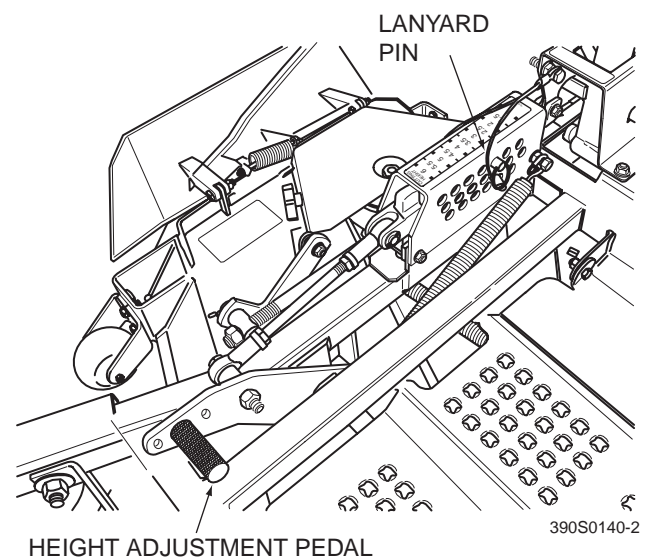
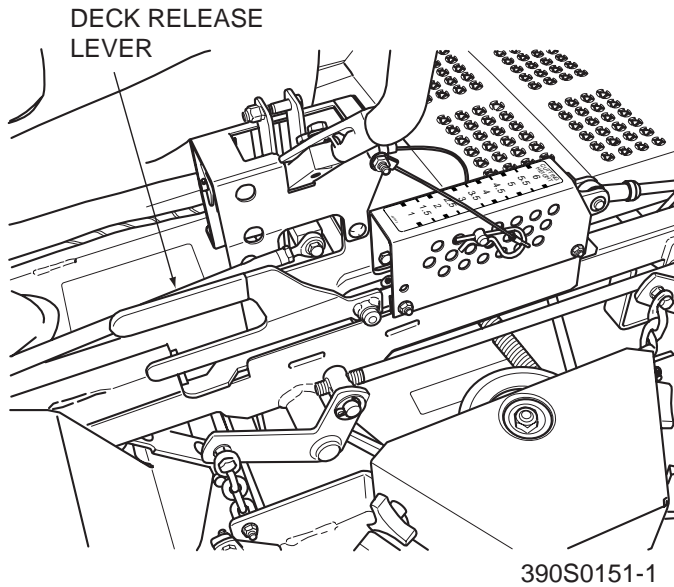

Figure 4-5. Adjusting Cutting Height
Figure 4-6. Deck Release Lever
1. Push the cutting height adjustment foot pedal all the way forward using your right foot until it locks in place. (Figure 4-5).
2. Insert the lanyard pin into the cutting height index at the desired cutting height. Push forward on the deck lift foot lever, hold in place and lift up on the deck release lever, (Figure 4-6). Slowly release the foot pedal. A deck height decal is located on the cutting height index as an aid in adjusting the deck to the desired height. (Figure 4-5).